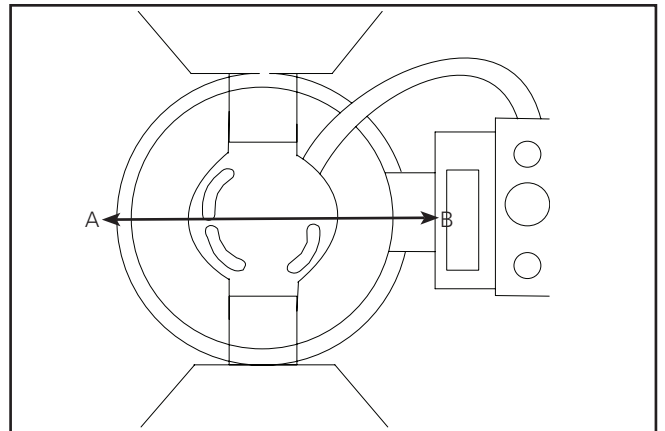

Figure 5.
Note: For Wall Wash Installations, housing is to be installed with one of (2) sides (A,B) facing the wall. (Figure 5.)